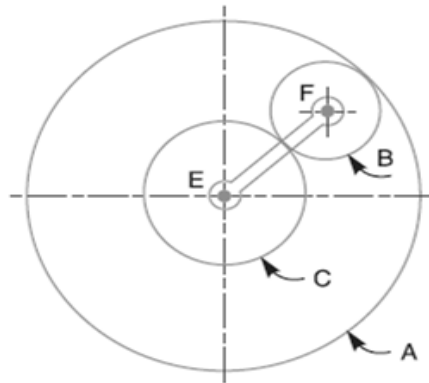

Figure 1
- Q.4** (a) An epicyclic gear consists of three gears A, B and C as shown in Fig. 1. The **07**